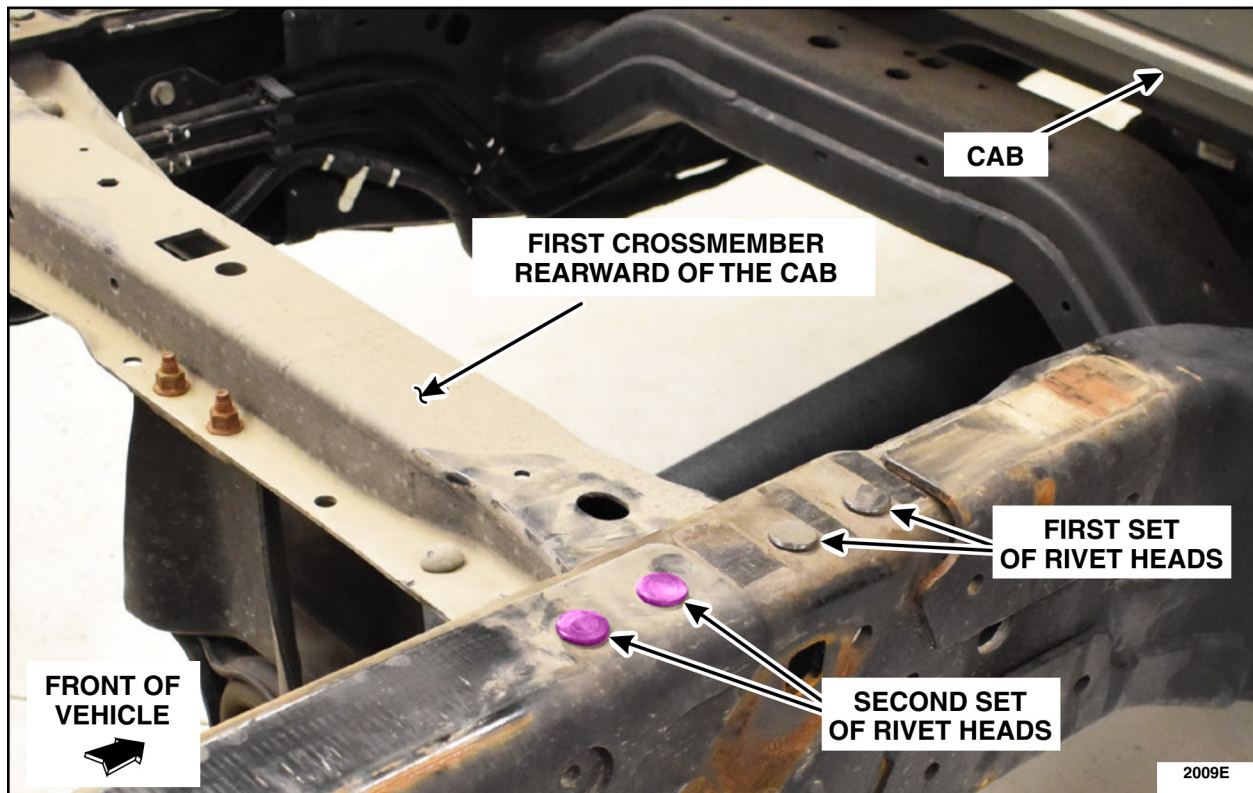

FIGURE 2
1. On the RH side frame rail, locate the second set of rivet heads, rearward of the cab. See Figure 2.